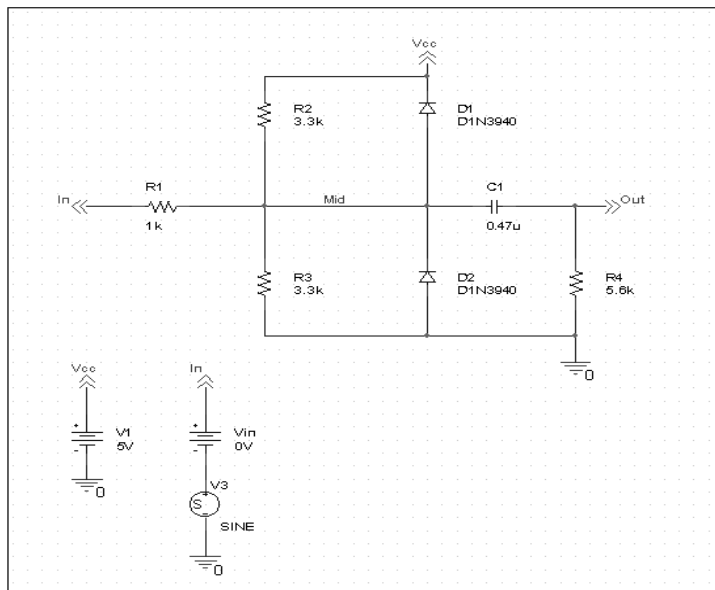

Figure 14 Diode clipper circuit with a voltage stimulus.
This example shows how to run a transient analysis on the clipper circuit. This requires adding a time-domain voltage stimulus as shown in Figure 14.
- 5 Place a VSTIM part (from the PSpice library SOURCESTM.OLB) as shown in Figure 14.
- 7 Place the ground part under the VSTIM part as shown in Figure 14.